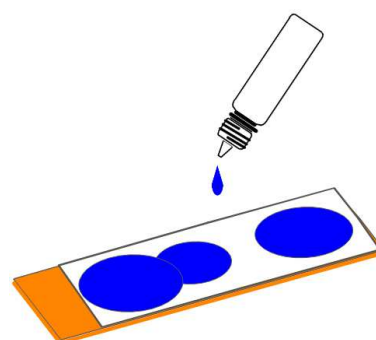

Fig. 3
- Soak the entire surface of the paper filter with roughly five drops of copper sulfate solution using a dropper or dropper bottle. Do not add more than five drops, otherwise the total amount of solution will exceed the water retention capacity of the paper (Fig. 3) and it would spill.